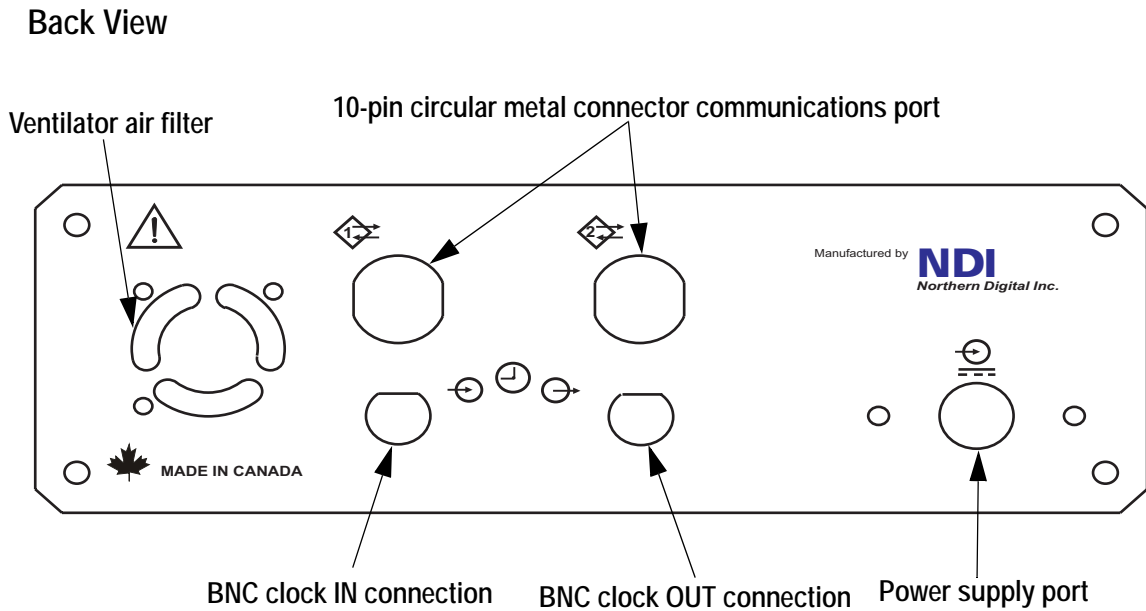

Figure 2-2 ODAU II - Back View
2. Locate the 8-pin power supply port found on the ODAU II. See Figure 2-2 on page 4.
2. Plug one end of the communication cable, included with the ODAU II, into one of the 10-pin circular metal connector communication ports found on the back of the ODAU II. See Figure 2-2 on page 4.
2. Plug one end of the communication cable into one of the 10-pin circular metal connector communication ports found on the back of the **first ODAU II**. See Figure 2-2 on page 4.